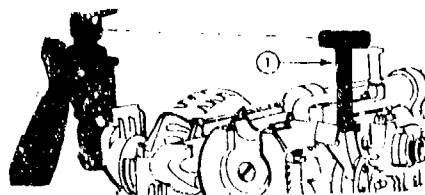

Figure 4-47. M140 alignment device used for checking boresighting.
c. The third subproposal is designed to improve the breech mechanism of the M137A1 cannon. Through the past years, four problem areas involving the breech have been identified: (1) The bevel gears, (2) the extractors, (3) the firing mechanism, and (4) the counterbalance spring. This improvement is projected to increase reliability, and to reduce maintenance problems of the breech by simplifying these components.
d. The fourth subproposal covers self-illumination of the M102 fire control and related items. Because the current night lighting system on the M102 is the source of numerous problems, the improvement is designed to eliminate the entire system by providing individual radioactive illumination sources for fire control digital counter, reticles, and leveling vials. Additionally, radioactive illumination will be applied to the collimator and the gunner's quadrant. New radioactive aiming post lights and the M140 alignment device used for checking boresighting (fig 4-47) are also included in the PIP. The first converted sets of these M102 fire control items were fielded in calendar year 1976.